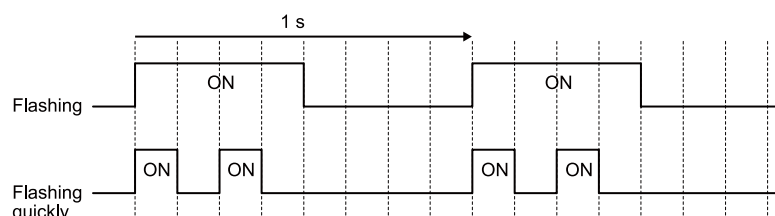

Figure 1.5 LED Flashing Statuses
*1 Refer to Figure 1.5 for the difference between “flashing” and “flashing quickly”.